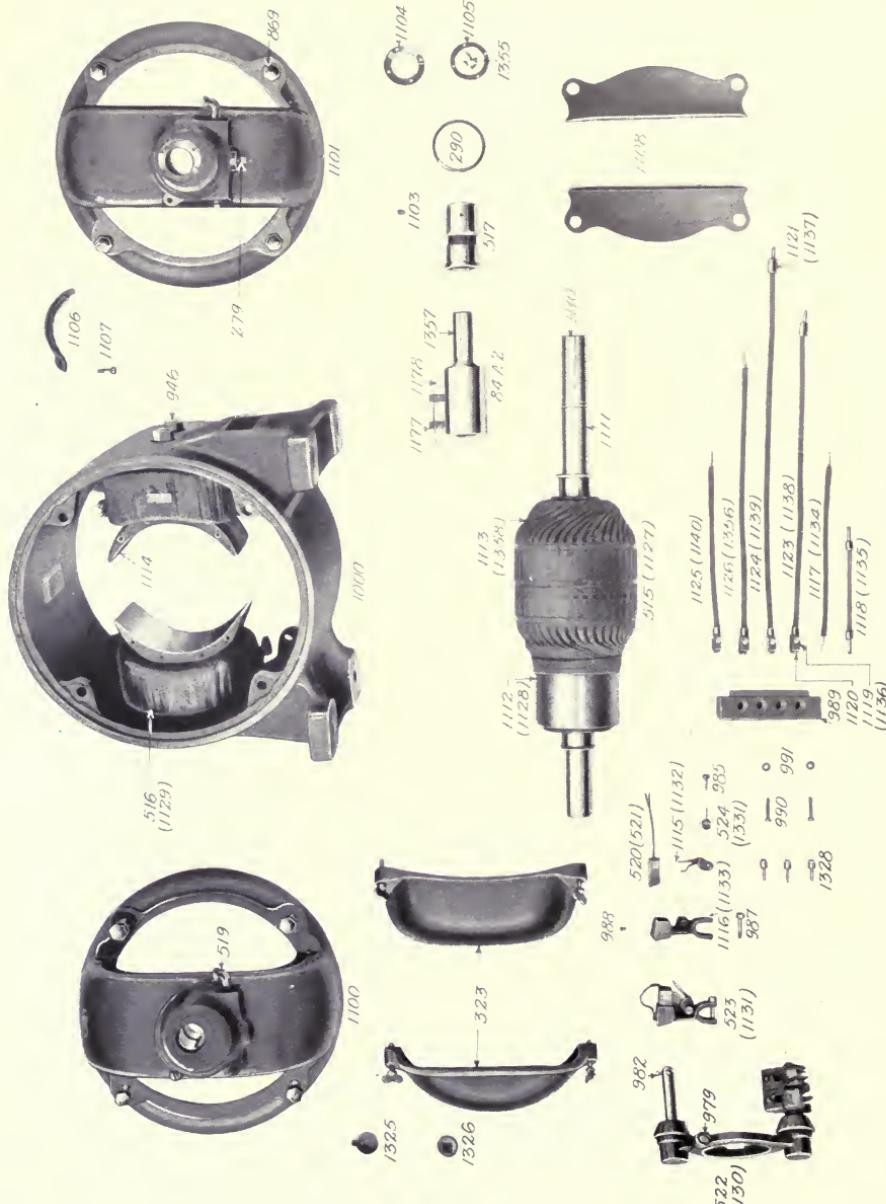

Fig. 41.
**47f. Radiator motor, type CQ-3. (See Fig. 41; See Par. 47e for Fan Resistance Parts.)**